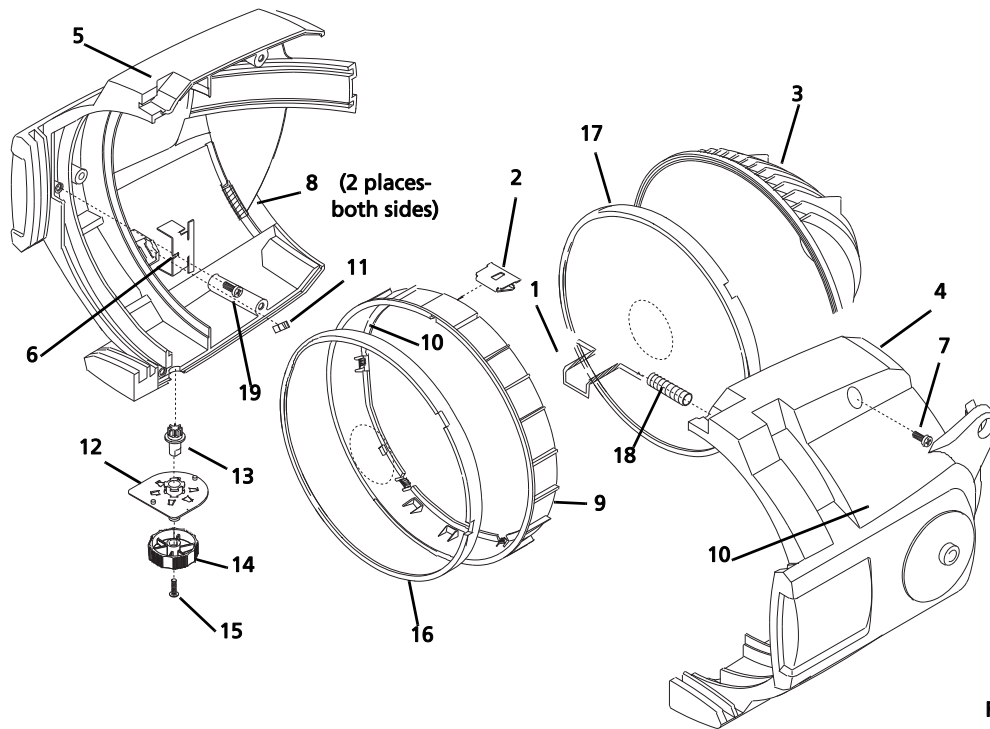

Figure 4
1. Install the reflector mount silicon pads (8) in the left barrel assembly (5). Install the pads in two places on both sides. See Figure 4.
2. With the wave side of the lens facing toward the front of the luminaire, install the clear/wave lens (17) into the rear lens track.
4. Place the focus knob assembly into the left barrel (5).
5. Install the lens stop (10) and the rotator spring clip (6) into the lens rotator (9).
6. Install the lens rotator (9) into the left barrel (5).
7. Install the rotator pressure clip (6) into the left barrel with screw (19).
8. Install the gel retainer clip (1) and the spring retainer (18) into the right barrel (4).
9. Attach the right barrel to the left barrel using screws (7) in three places. Hand tighten only (2.8 newton meters).
10. Check that the gel clip retainer (1) moves easily into position.
11. Check for smooth rotation of the lens rotator (9).